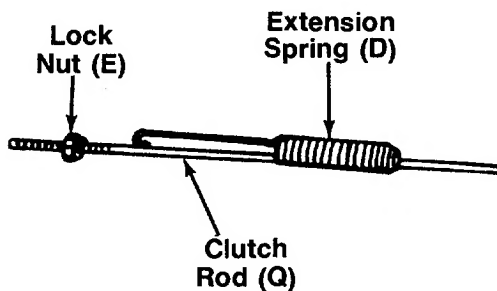

FIGURE 10.
2. Slide the extension spring (D) onto clutch rod (Q) as shown in figure 10. Thread lock nut (E) onto clutch rod approximately 2½ inches.